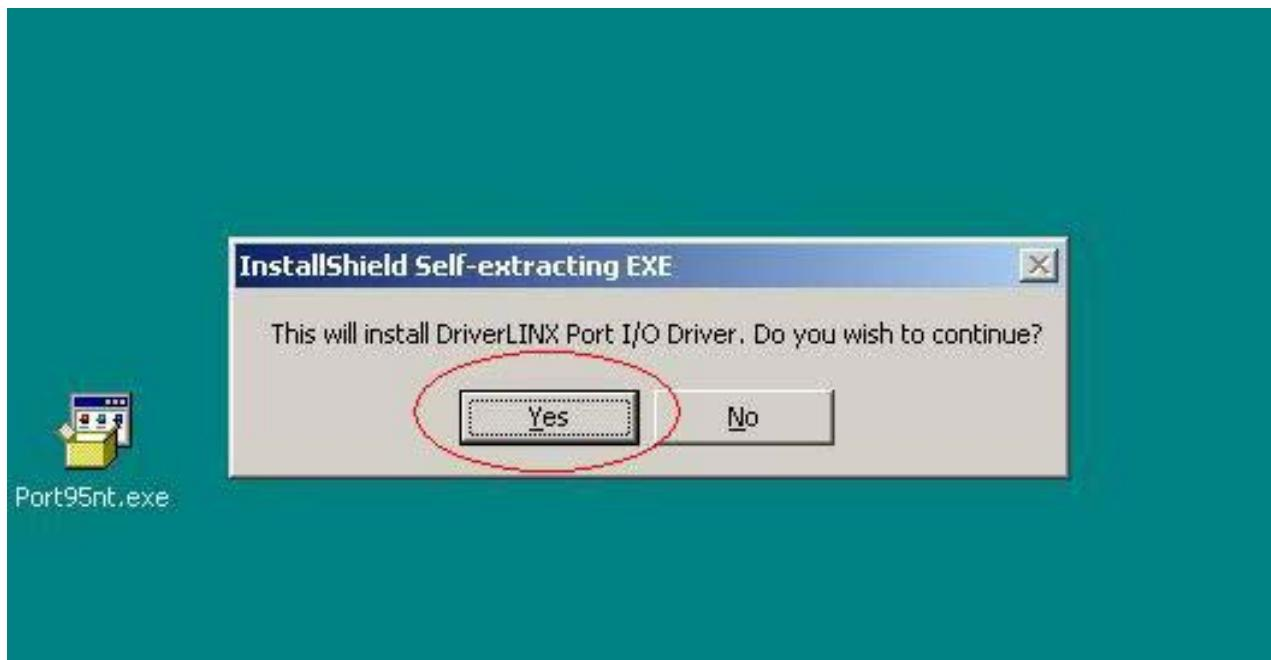

Fig 0.1
- Double-click the "PORT95NT.exe" icon in Windows and install the program; see Fig 0.1.